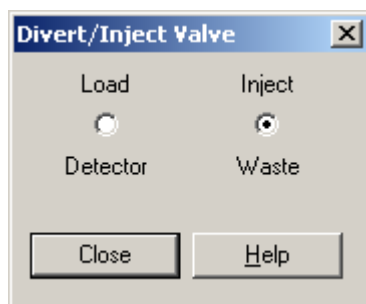

Figure 5-11. Divert/Inject Valve dialog box
9. Click on the Divert/Inject Valve button to open the Divert/Inject Valve dialog box. See Figure 5-11.